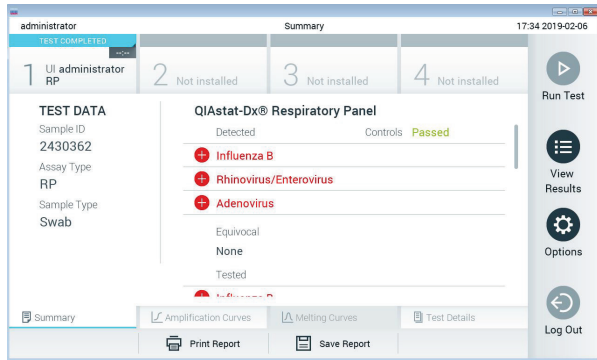

Figure 30. Results Summary screen.
11. After the QIAstat-Dx assay cartridge has been ejected, the results **Summary** screen will appear (Figure 30). Refer to Section 5.4 for further details.